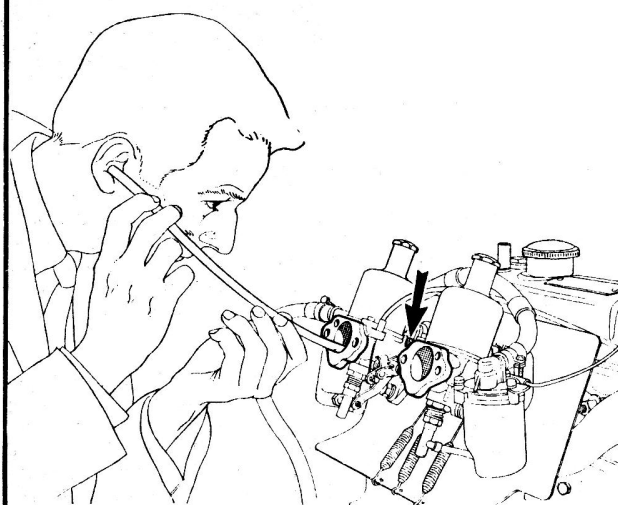

Fig.3.29. Balancing the S.U. carburettor
- 2 Remove the suction chambers from the carburettors and screw out both mixture screws (B) until the tops of the jets are flush with the jet bridge in each carburettor body.
- 5 Screw in the slot running volume screws (A) until they meet their seatings and then unscrew each of the screws $2\frac{1}{2}$ turns.
- 7 Now the carburettors must be balanced (synchronised) by adjusting on the slow running volume screws (A) until they are sucking equally. This can best be judged by applying a balance meter to the carburettor air inlet and adjusting on the screws until the readings are the same. Alternatively, listen to the "hiss" of each carburettor (use a piece of tube as illustrated in Fig.3.29, a piece of old bicycle tube is ideal and adjust on each of the screws (A) until it is judged that the hiss from each carburettor is the same.
13 Now the carburettors must be balanced (synchronised) by adjusting the throttle adjusting screws until they are sucking equally. This can best be judged by applying a balance meter to the carburettor air inlet and adjusting the screws until the readings are the same. Alternatively, listen to the "hiss" of each carburettor (use a piece of tube as illustrated in Fig.3.29, a piece of old bicycle tube is ideal) and adjust on each of the screws until it is judged that the hiss from each carburettor is the same.